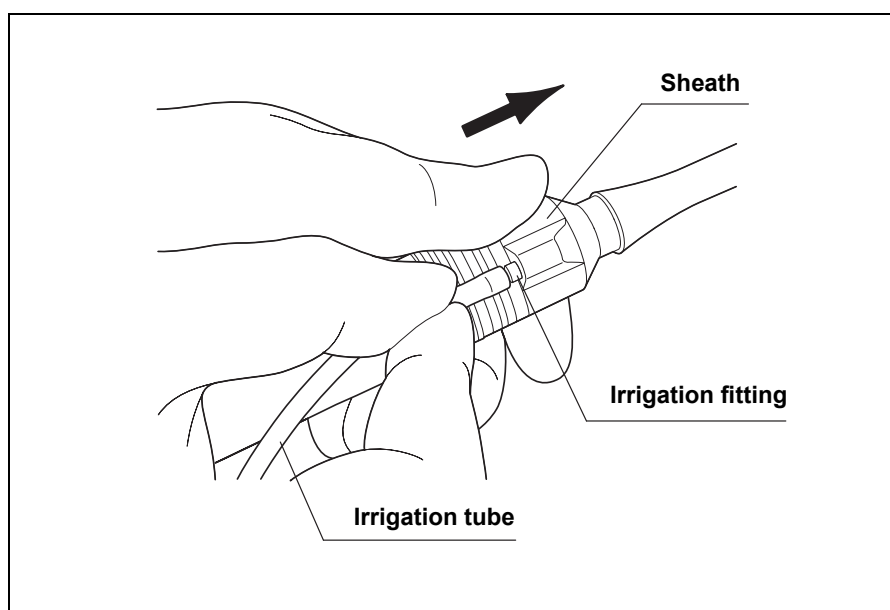

Figure 4.9
1. When connecting the irrigation tube of the irrigation/suction tube for SonoSurg (MAJ-1099) to the sheath, always hold the sheath firmly. Make sure to push the tube completely over the irrigation fitting (see Figure 4.9).